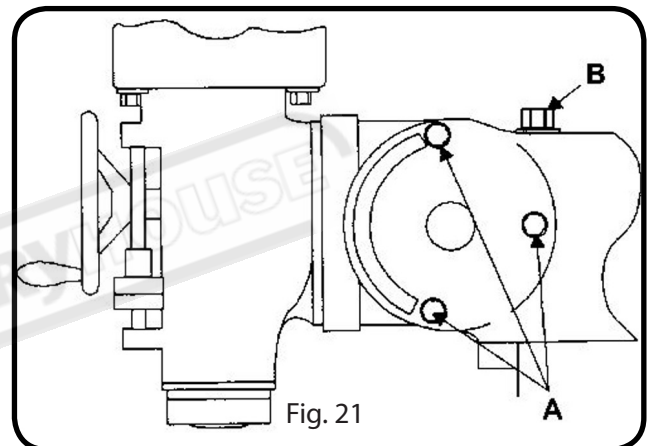

Fig. 21
2. Loosen three lock bolts "A" shown in Fig.21
3. Use one hand to apply pressure to head in direction of tilt, then slowly rotate tilt-bolt "B" shown in Fig. 21
3. The indicator should read the same in position "C" and "D" (Fig. 24) of the table. If not, loosen the four hex nuts (A of Fig. 22) and reposition the mill head. . If the indicator does not read the same in "E and "F" (Fig.24) loosen the nuts "A" in Fig. 21 and reposition the mill head.